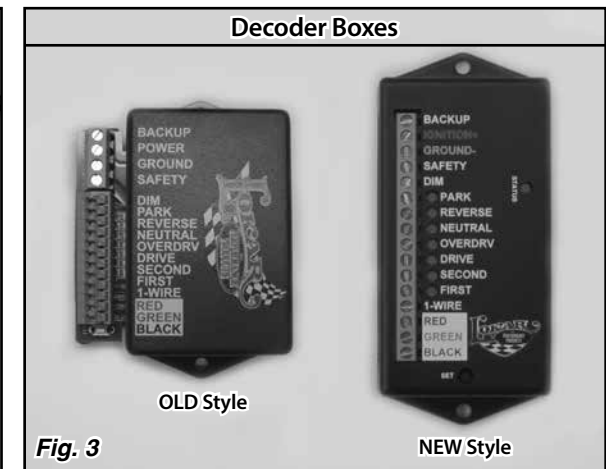

Fig. 3
**NOTE:** There are two styles of decoder boxes: OLD and NEW. See Fig. 3 to determine which type you have. If you have the OLD style decoder box, these are NOT the correct instructions. You need instructions # INS0039, which can be found on the Lokar website or can be emailed to you by contacting Lokar Technical Support.